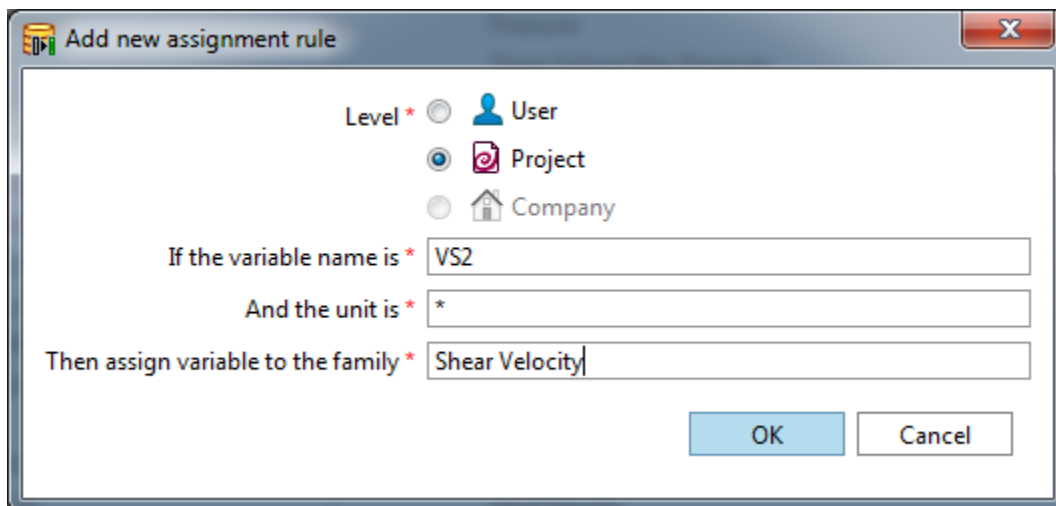

Figure 13: Window for adding new assignment rule.
- e. In the Add new assignment rule window that appears (Fig. 13)